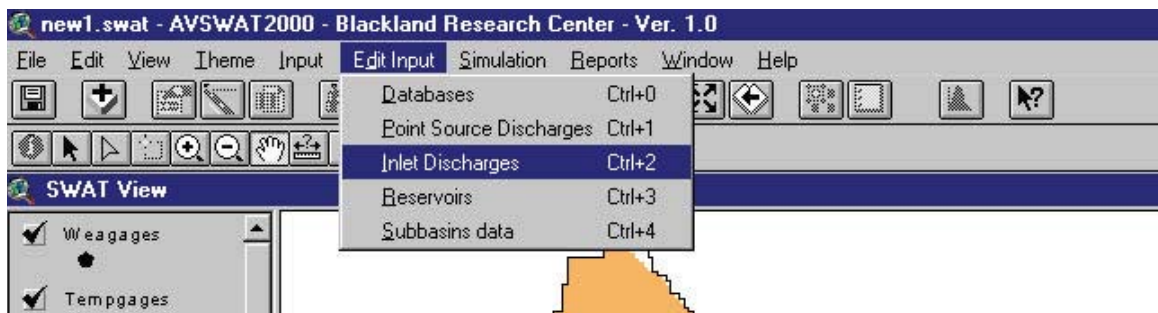

Figure 10.2
1. Select **Inlet Discharges** from the **Edit Input** menu in the *SWAT View* (or press `Ctrl+2`) (Figure 10.2).